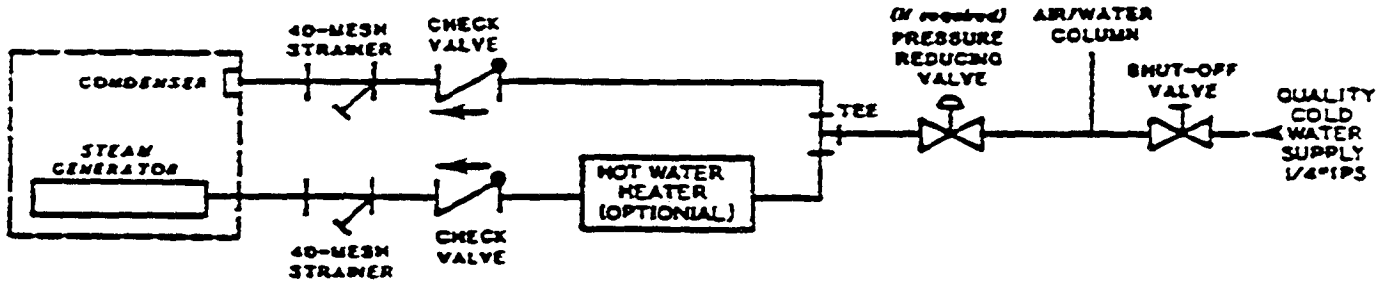

Figure 2-14. Double Water Connection with Hot Water Heater
7. When installing a hot water heater, Cleveland Range recommends the plumbing layout illustrated in Figure 2-14.
1. Refer to Figure 2-14.